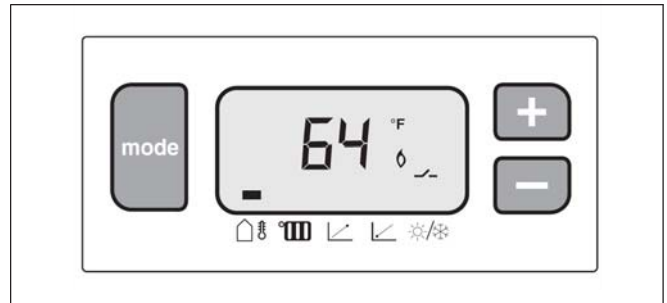

Fig. 26 Default display: Current outdoor temperature
- When powering up the AM10 the current outdoor temperature is displayed (Fig. 26).
- Pressing the mode key again will return the display to the current outdoor temperature (Fig. 26).